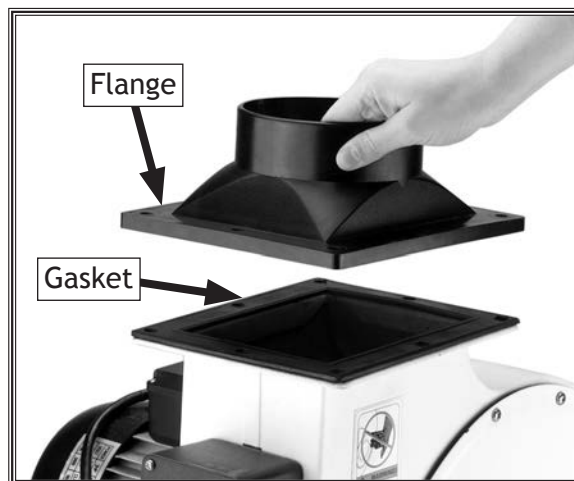

Figure 8. Outlet gasket and flange.
5. Place outlet gasket on top of outlet port, as shown in Figure 8.